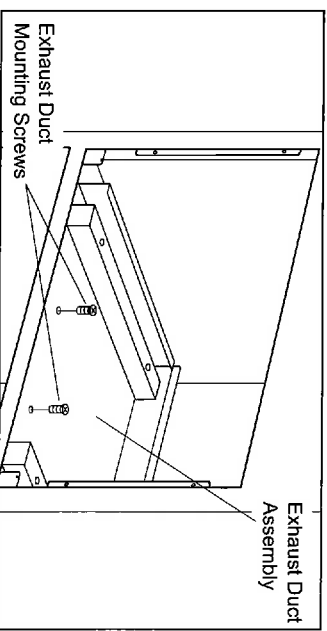

Figure 2. Exhaust Duct Assembly
4. Center exhaust duct assembly in opening. When centered correctly, its flanges will be tightly against lower front edge of opening. Secure with mounting screws (See Figure 2).